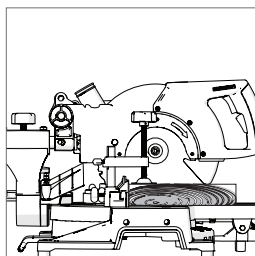

Fig. 28
- Always push the Cutting Head to the full rear position during each cut. (**Fig. 28**)